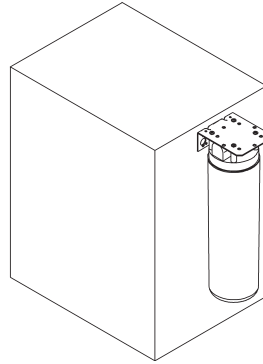

FIG. 10
**LNTE MODEL:** Mount filter head assembly to side of chiller (See Figure 10). Make connection between filter and building supply line (3/8" O.D. tube not provided). Inlet port is marked on the chiller (1/4" O.D. copper tube). Install a 1/4" x 1/4" union (provided) on the inlet port. Insert the 1/4" poly tubing (provided) into fitting on filter and connect to the union on the chiller. **DO NOT SOLDER TUBES INSERTED INTO THE UNIONS AS DAMAGE TO THE O-RINGS MAY RESULT.** (See Figures 9 or 13).
- 5. Install** the fountains. Remove access cover plates on underside of fountains and save the screws. Mount the fountains to the upper panel and the wall frame with (4) 5/16" x 3/4" (19mm) long bolts and nuts (provided). Tighten securely.